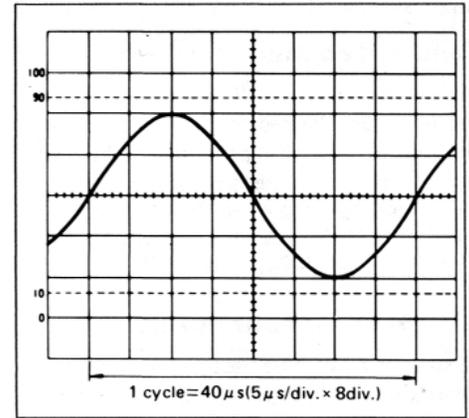

Fig. 28. Frequency measurement.
(Refer to Fig. 28)
1. Set up the oscilloscope to display one full cycle of the waveform (see Fig. 28).
In the example shown in Fig. 28, a period of 40 mS is observed. Substituting this value into the above equation, the frequency is calculated as follows: